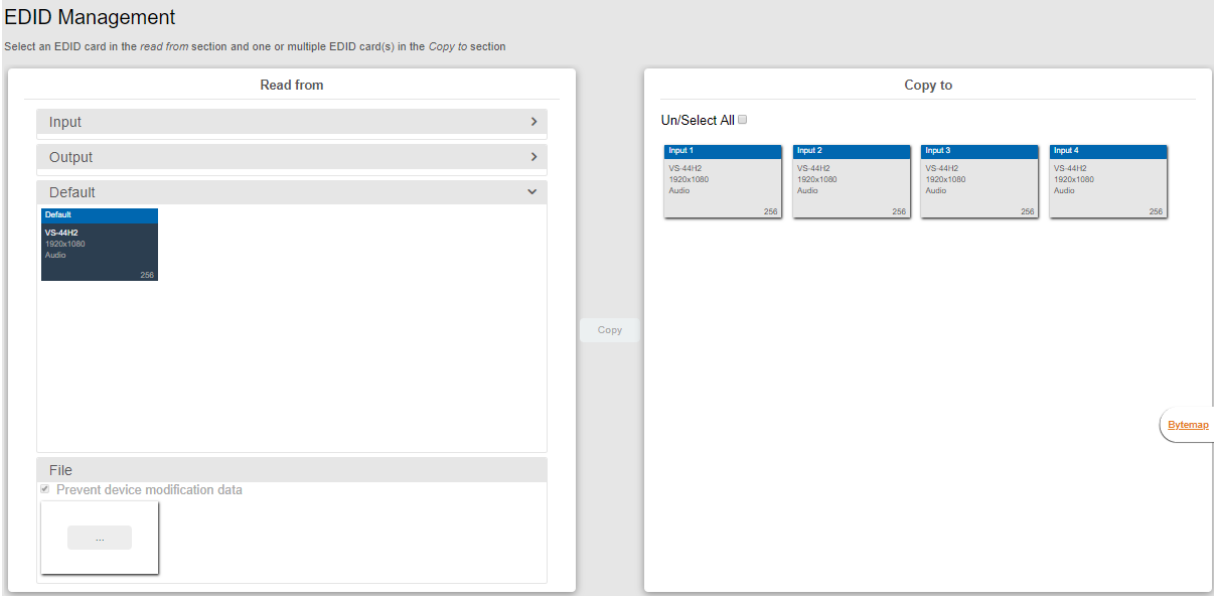

Figure 24: EDID Management Page
- 1. In the Navigation pane, click **EDID Management**. The EDID Management page appears (see Figure 24).
1. In the Navigation pane, click **EDID**. The EDID Management page appears (see Figure 24).